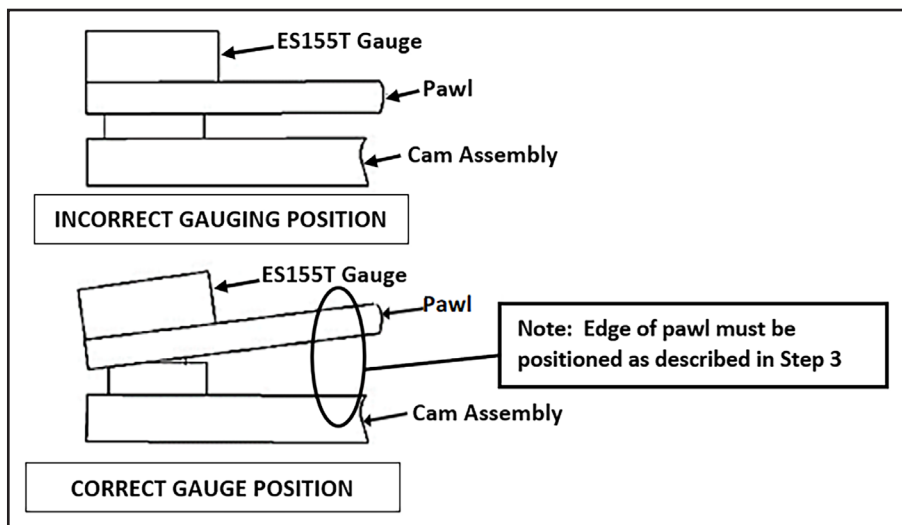

Figure 4.2 – Correct Gauge Position
- 3) Lift the inner edge of the pawl and apply pressure to the pawl to push outward while keeping the edges of the pawl radius and the impulse assembly base plate radius in parallel alignment. The inner edge of the pawl must be lifted or the gauge observations will not be accurate. Reference Figure 4.2.